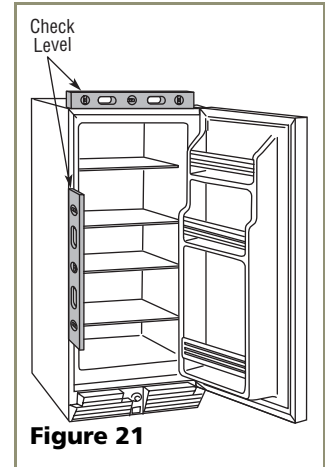

Figure 21
1. Use a level to check the levelness of the unit from front to back and from side to side. Level should be placed along top edge and side edge as shown (see **Figure 21**).